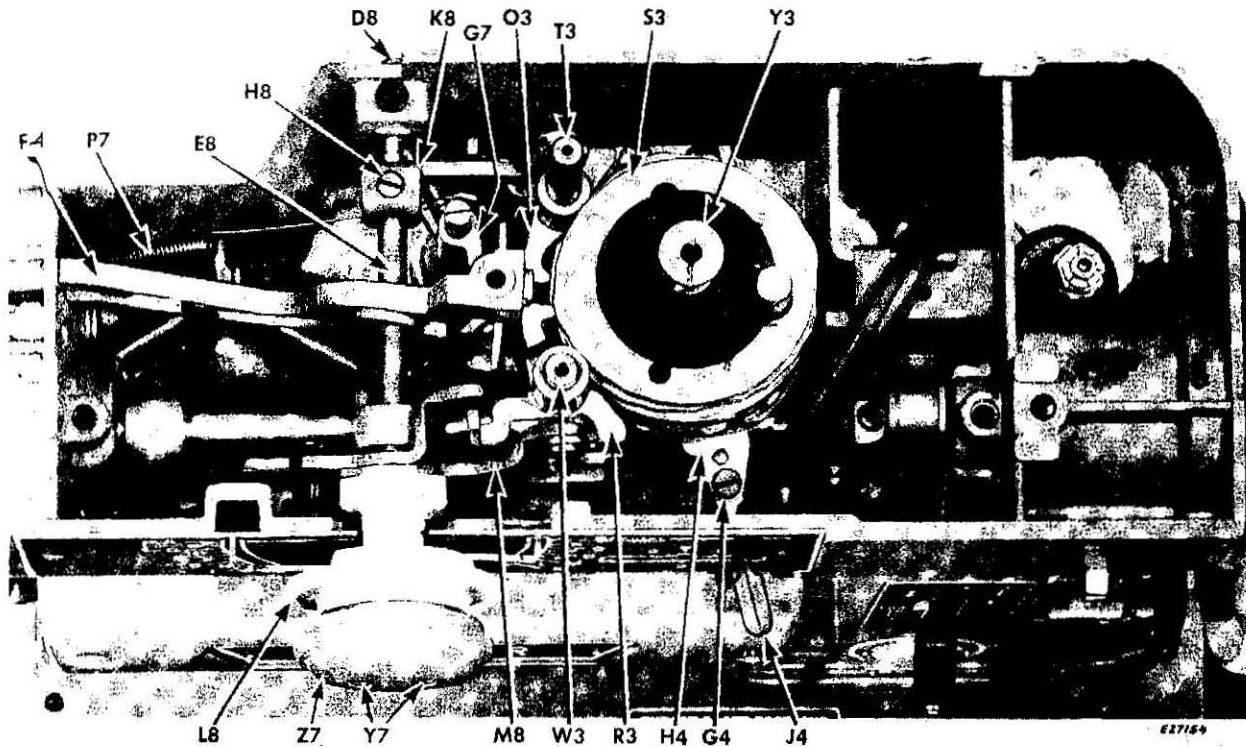
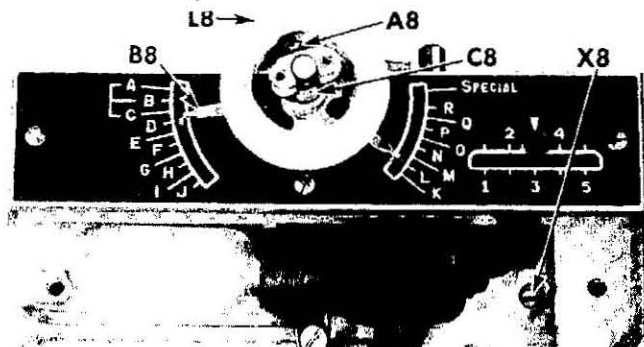
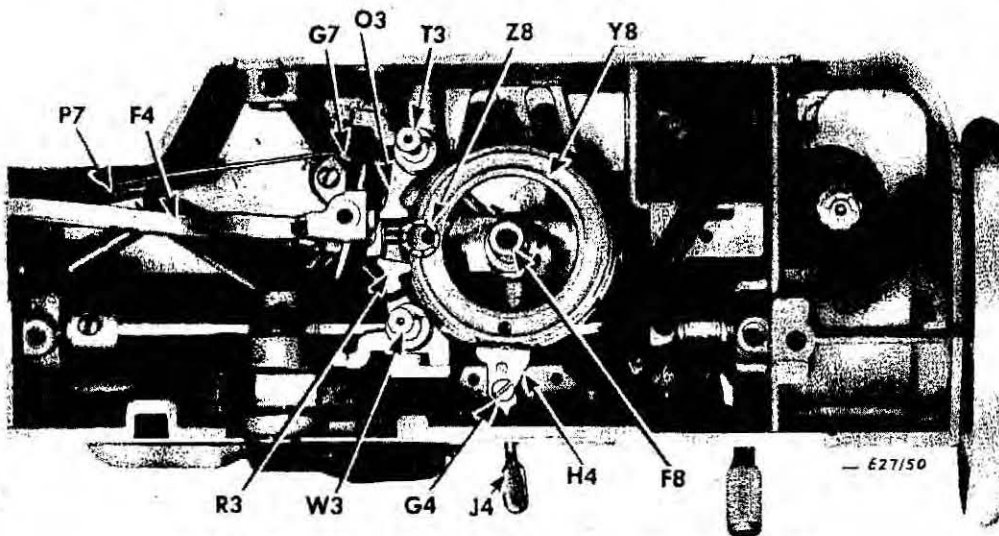

Fig. 321. Cam Stack and Selector Arm Shaft
Fig. 322. Removing Selector Arm Shaft
Fig. 323. Showing Location of Ball Pivot on Driving Arm
3. Remove large screw stud **Y3**, Fig. 321 with spring and remove cam stack **S3**.
2. Remove two screws **Y7** and knob **Z7**, Fig. 321.
3. Remove screw **A8**, indicator **B8** and spring **C8**, Fig. 322.
4. Remove screw **D8**, Fig. 321, at rear of selector arm shaft **E8**.
5. Remove screw **H8** and withdraw shaft **E8** from front of arm, releasing rear selector arm **K8**, and front selector arm and knob **L8**, Fig. 321.
7. Remove followers **O3** and **R3**, Fig. 321.
1. Replace followers **O3** and **R3**, as shown in Fig. 321.
2. Replace knob **L8** so that bracket on front selector arm **M8** slides into its slot in front follower **R3**, Fig. 321.
3. Replace selector arm shaft **E8** slipping it through front selector arm knob **L8** and rear selector arm **K8**, Fig. 321. Make certain that bracket on rear selector arm **K8** slides into its slot in follower **O3**.
4. Replace and securely tighten screw **H8**, Fig. 321 so that screw clamps down on counterbore on shaft.
5. Replace spring **C8** and indicator **B8**, Fig. 322. Fasten with screw **A8**, Fig. 322.
6. Replace screw **D8**, Fig. 321 on rear of arm selector shaft.
7. Replace knob **Y7**, Fig. 321. Fasten knob to indicator **B8**, Fig. 322 with two screws **Z7**, Fig. 321.
4. Lift needle bar driving arm, **F4**, **Fig. 323** from machine.
machine, so that ball pivot **Z8**, **Fig. 323** rides in socket provided for it in pattern selector **Y8**, as shown in **Fig. 323**.
CAUTION: Make certain tension arm **G7**, **Fig. 323** is in correct position in relation to needle bar driving arm, as shown in **Fig. 323**.
(See Fig. 323)
3. Remove spring **P7**, **Fig. 323**.
6. Loosen set screw **X8**, **Fig. 322**, **page 158** and remove entire cam stack assembly **S3** with worm wheel eccentric shaft **F8**, **Fig. 323** and screw stud **Y3**, **Fig. 321**, **page 158**.
2. Make certain that needle bar driving arm ball bearing pivot **Z8** is engaged with pattern selector, as shown in **Fig. 323**.
5. Tighten set screw **X8**, **Fig. 322** at front of machine arm.
6. Replace spring **P7**, **Fig. 323**.